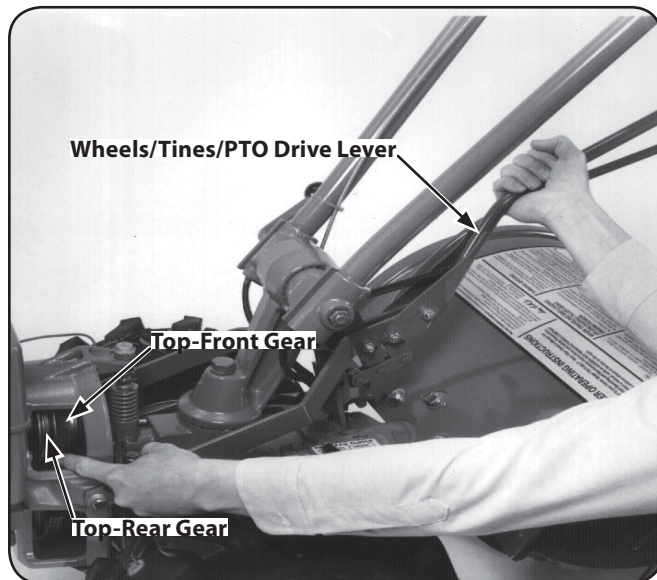

Figure 4-9
- Stand on the left side of the tiller. Use your right hand to hold the Wheels/Tines/PTO Drive Lever up into REVERSE position. Use your left hand to move the belt off the top-front engine pulley groove to top-rear engine pulley groove. See Fig. 4-9.